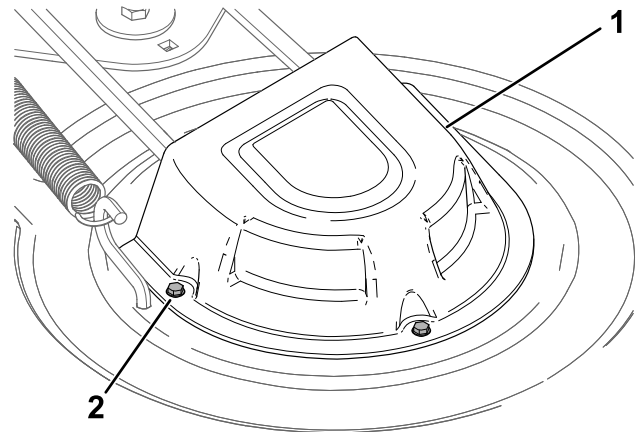

Figure 48
4. Loosen the screws and remove the pulley covers (Figure 48).